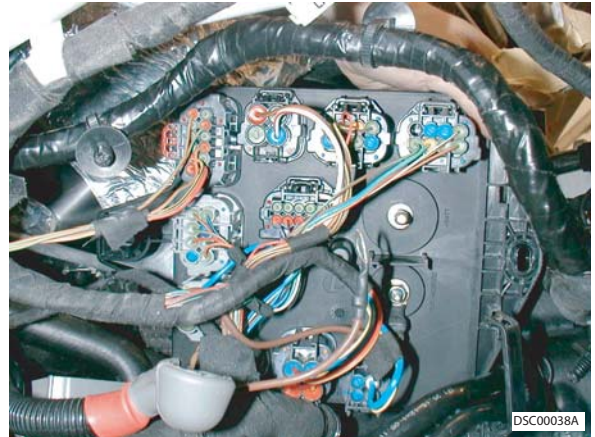

Figure 33
37. Install multiplugs to fuse box (refer to Figure 33).